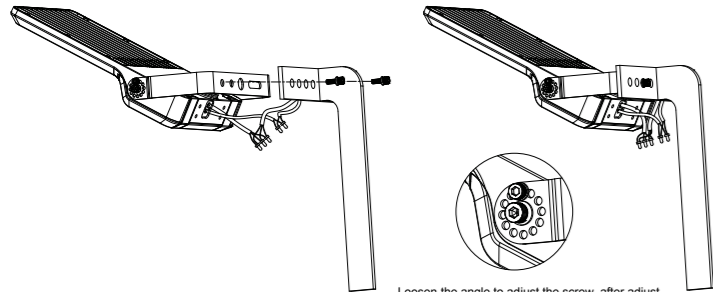

Figure 19
- Install the mount to the fixture, tighten the mount and install the screws. Connect the fixture to the bracket and tighten the screws; connect the wires properly and put them into junction box (Figure 19)